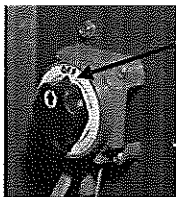

Figure 1
2. Open the left hand cover and make sure that the Main Power Switch is turned to the OFF position. See Figure 1